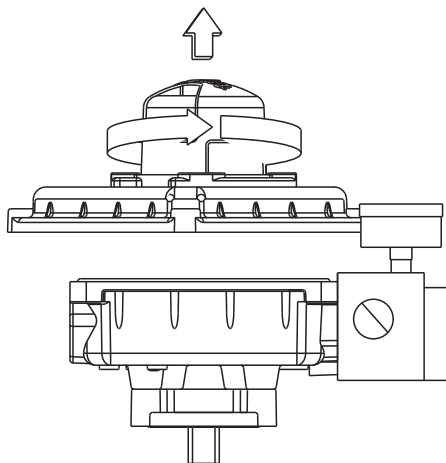

Figure 2
3. Loosen the (4) captive screws which fasten the EaziCal IR Positioner cover. Twist cover approximately 45° and lift up (figure 2). (Wiring diagram inside EaziCal IR Positioner cover).